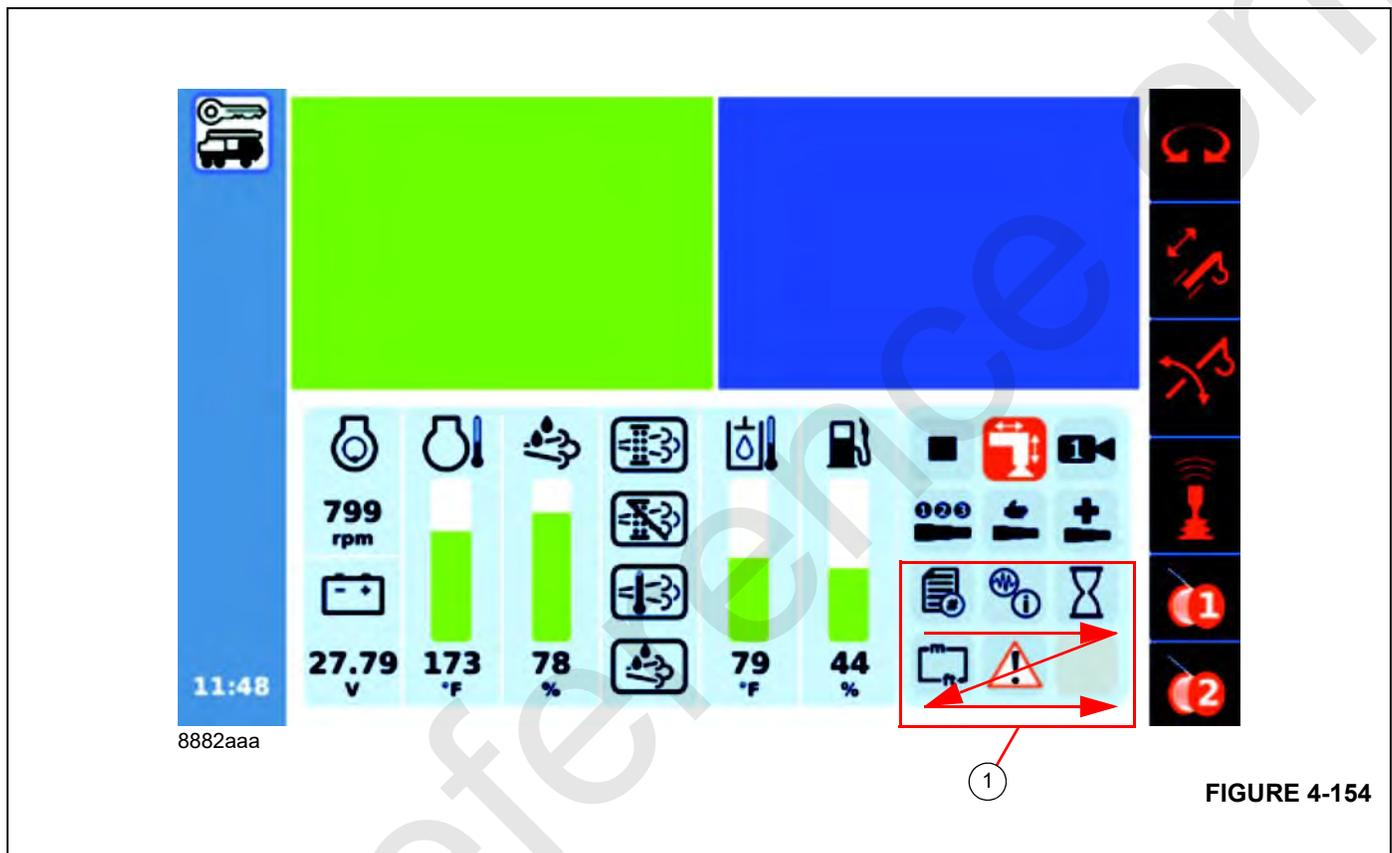

FIGURE 4-154
The Frequently Used Quick Select Menu Area (1), (Figure 4-154) of the ODM Main Screen shows the six most often selected function icons from the Menu Screen.
These icons appear in descending order of usage, starting at the top left corner and descending to the bottom right corner, as shown by the red arrows in (Figure 4-154).
These six function icons can also be found in the Menu Screen of the ODM. Selecting one of the six icons in the Frequently Used Quick Select Menu Area (Figure 4-154) or in the Menu Screen (Figure 4-147) will open the same function screen.